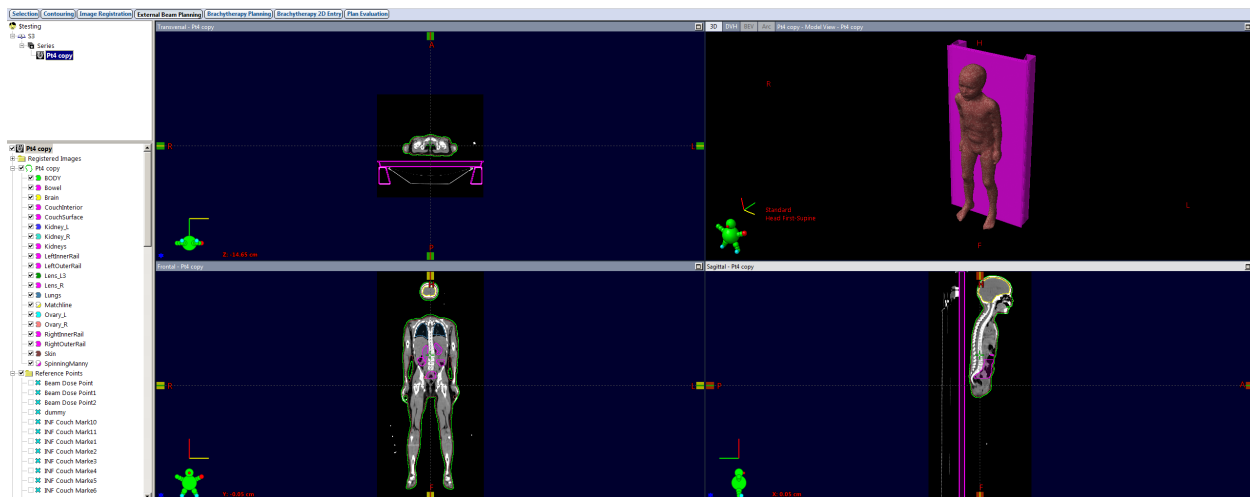

Figure 1: Initial setup for launching the VMAT TBI binary plug-in script.
- Once contouring has been completed, open the STRUCTURE SET in the External Beam Planning workspace (Figure 1)